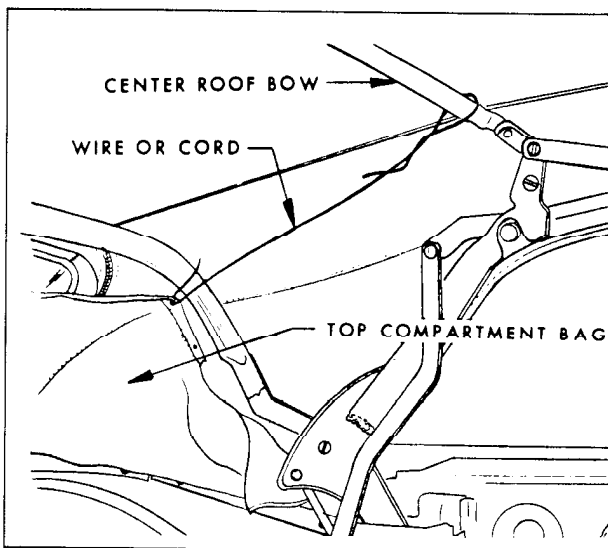

Fig. 15-85 Top Compartment Bag Held in Position
5. Detach folding top compartment bag from rear seat back panel, thus exposing rear quarter and rear trim stick attaching bolts. Forward end of top compartment bag may be tied or wired to center roof bow to provide ready access to attaching bolts. (Fig. 15-85)